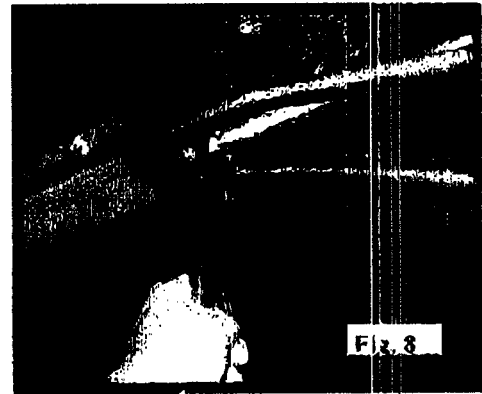

Fig. 8
7. Time to remove the drive shaft assembly. Clamp the short end of the drive shaft as close as possible to the main assembly tube using vice grip pliers or other suitable tool. (Fig. 8) This is to prevent the shaft from turning during the following process. Using the lift system crank inserted into the waist-hi receiver, turn the crank counter-clockwise until you can easily turn the drive shaft inside of the short drive shaft on the main tube assembly. This will indicate that the burrs, caused by the original fastening screws, have been smoothed over and the shaft can be removed.